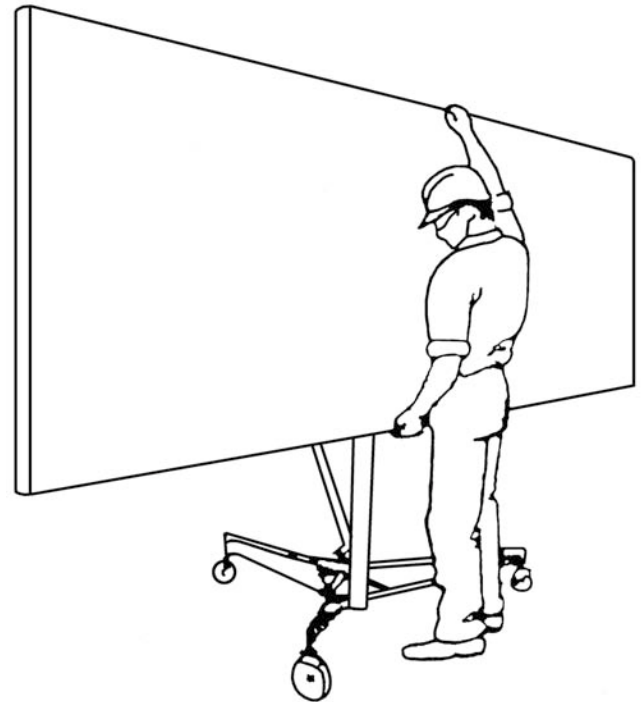

FIGURE 12
- 5) **Hold the drywall panel with its paper face towards the tilted cradle.** Set the drywall panel on the support hooks and carefully lean the drywall panel against the crossarms and outriggers, see Fig.12.